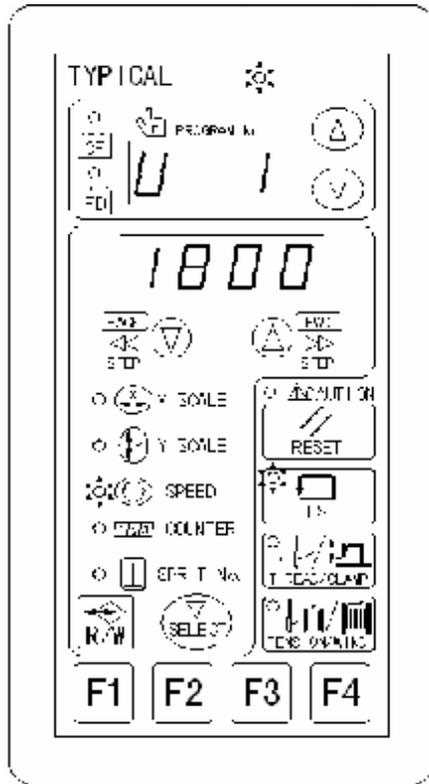

Fig. 5-24
5. Press  key to switch to sewing speed set-up interface (as shown in Fig. 5-24),  SPEED indicator light flashes. Press  or  key to change sewing speed value.